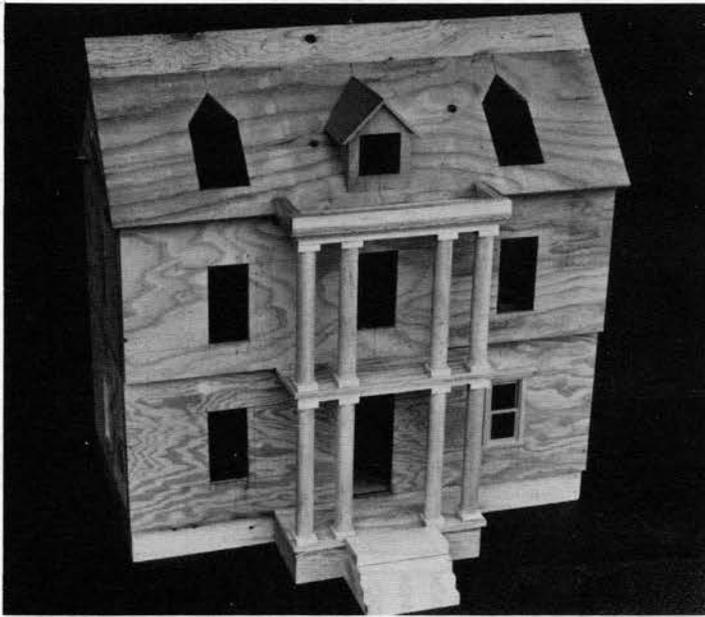

Fig. 5
**FIGURE 5** shows the basic structure of the Georgian ready for decorating. Do not attach the front facade (Parts G-1 through G-25) to the other facade panels yet. Also leave the front entrance stair module unattached. Later the Georgian facade will be attached to the left hinged front.